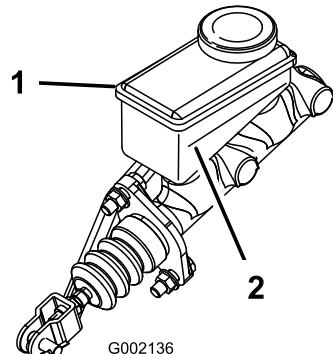

Figure 56
- Look at the outline of the fluid level at the side of the reservoir (Figure 56).
- Add DOT 3 brake fluid to the reservoir until the fluid level is above the Minimum line (Figure 56).